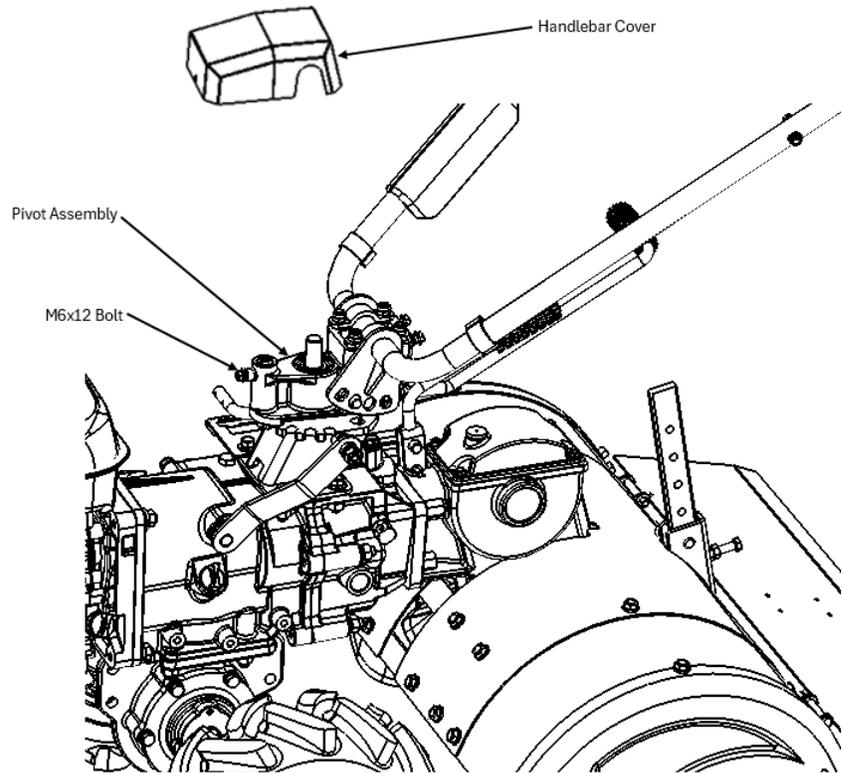

Figure 7
1. Align the Handlebar Cover over the Pivot Assembly (**Figure 7**).